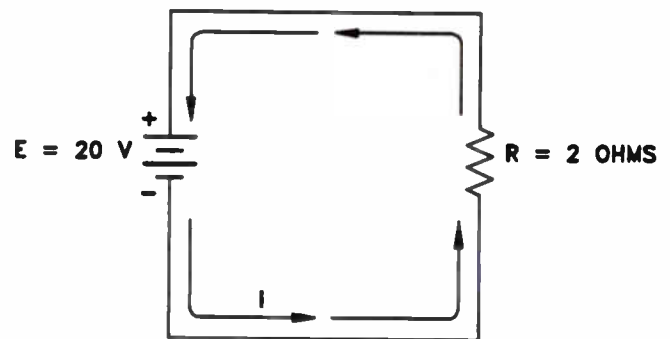
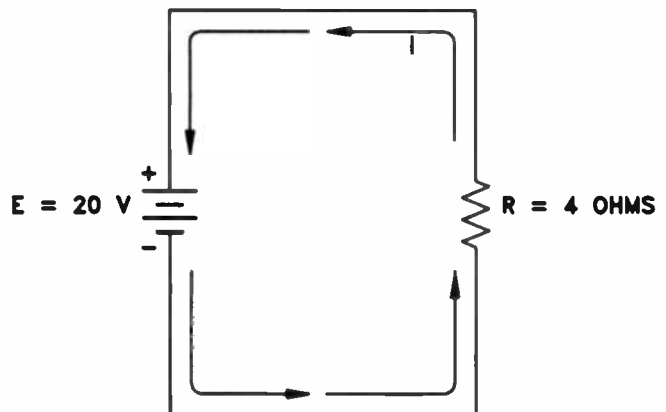

Figure 10. A simple circuit consisting of a voltage source and a resistor.
Figure 11. The 2-ohm resistor in the circuit of Fig.10 is replaced by a 4-ohm resistor.
In Fig.10 we have a simple circuit consisting of a voltage source and a resistor. Notice the schematic symbol for a resistor; this is another important symbol you should remember. The battery voltage (E) is 20 V; the resistance (R) of the resistor is 2 ohms. The unknown value is the amount of current.
In the circuit shown in Fig.10, the current flow will be equal to 10 amperes. If we increase the voltage to 40 V, the new current flow will be:
In the simple circuit shown in Fig.10, where the voltage is 20 V and the resistance 2 ohms, we found by using Ohm's law that the current flow is 10 amperes. The same circuit is shown in Fig.11, except that we have replaced the 2-ohm resistor with a 4-ohm resistor. How will this affect the value of I? Using Ohm's law, we can find the current:
- 29 In the circuit in Fig.10, find the current if the voltage is 15 V and the resistance is 3 ohms.
- 30 If in the circuit in Fig.11, the voltage is 60 V and the resistance is 15 ohms, what is the current?